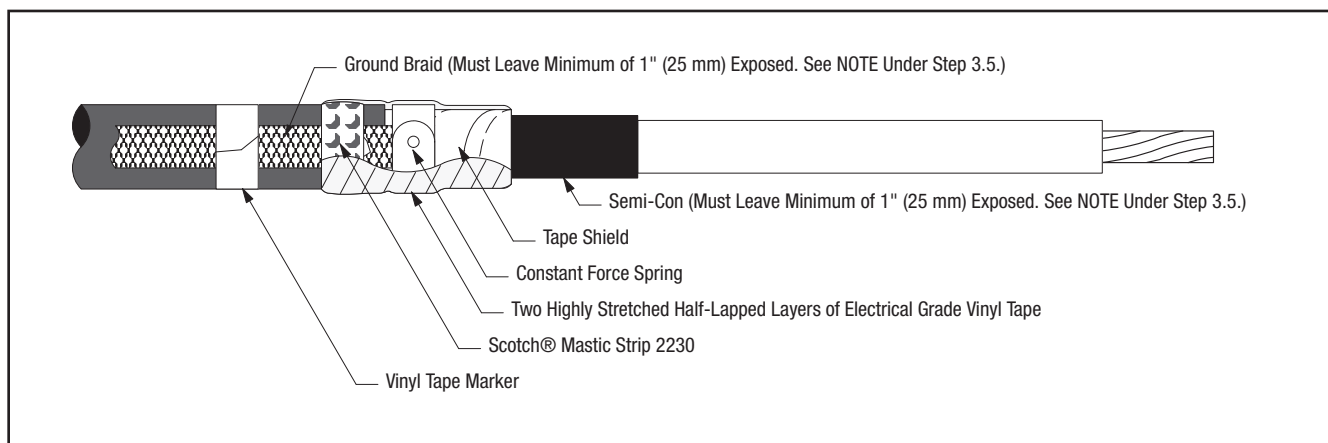

Figure 5
3.5 Wrap two highly stretched half-lapped layers of electrical grade vinyl tape around Scotch® Mastic Strip 2230, constant force spring and exposed tape shield (Figure 5).